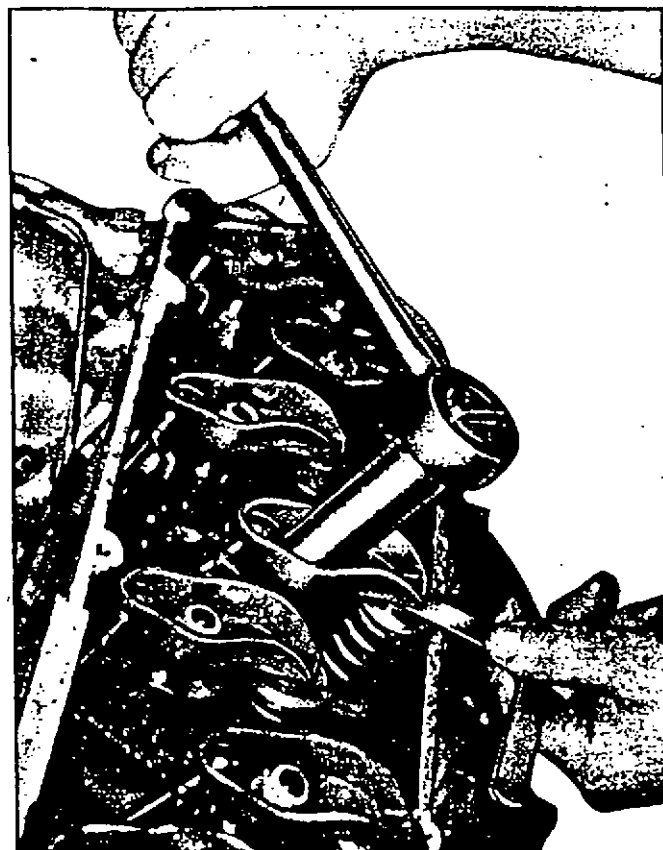

Fig. 25—Valve Adjustment (Mechanical)
3. Use a socket wrench on self-locking rocker arm stud nut and adjust as needed to obtain valve lash (see tune up chart) measured between rocker arm and valve stem with a leaf type feeler gauge (Fig. 25).